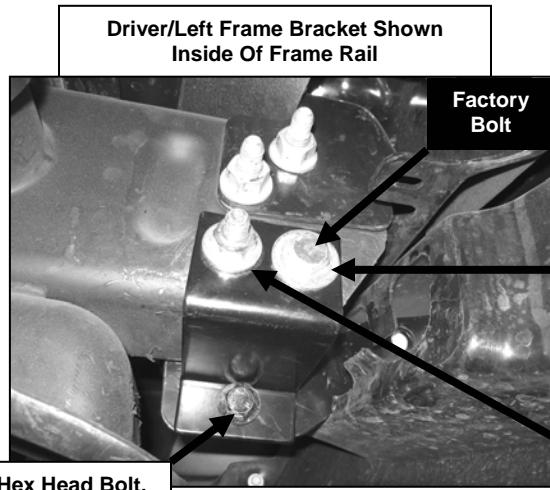

Figure 3
6. Insert (1) Bolt Plate into front of driver/left side frame rail, so threaded Bolt Pate will go through rear tow hook mounting hole (Figure 3). **NOTE:** On the driver/left side, the Bolt Plate will mount to inner side of frame rail. On the passenger/right side, the Bolt Plate will mount to the outer side of frame rail.
7. Position (1) Frame Bracket on the inner side of driver/left frame rail and through already inserted Bolt Plate. Secure Frame Bracket using (1) 12mm Flat Washer and (1) 12mm Nylock Nut (Figure 3). Do not tighten at this time.